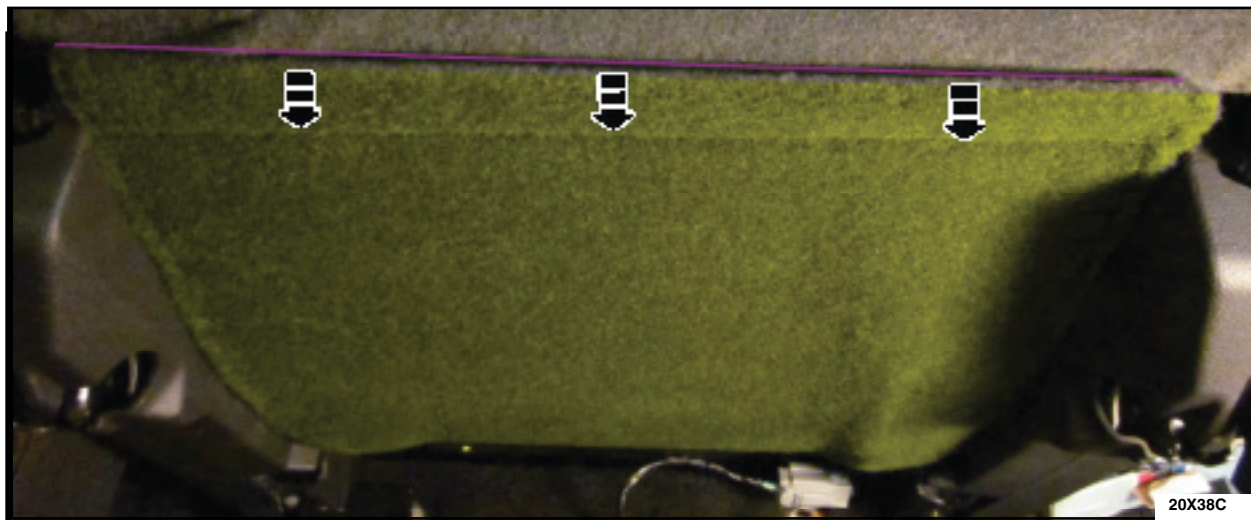

FIGURE 3
4. Release the seat cushion cover J-clip and position aside the seat cover. See Figure 3.
18. Position the seat cushion cover and engage the J-clip. See Figure 3.